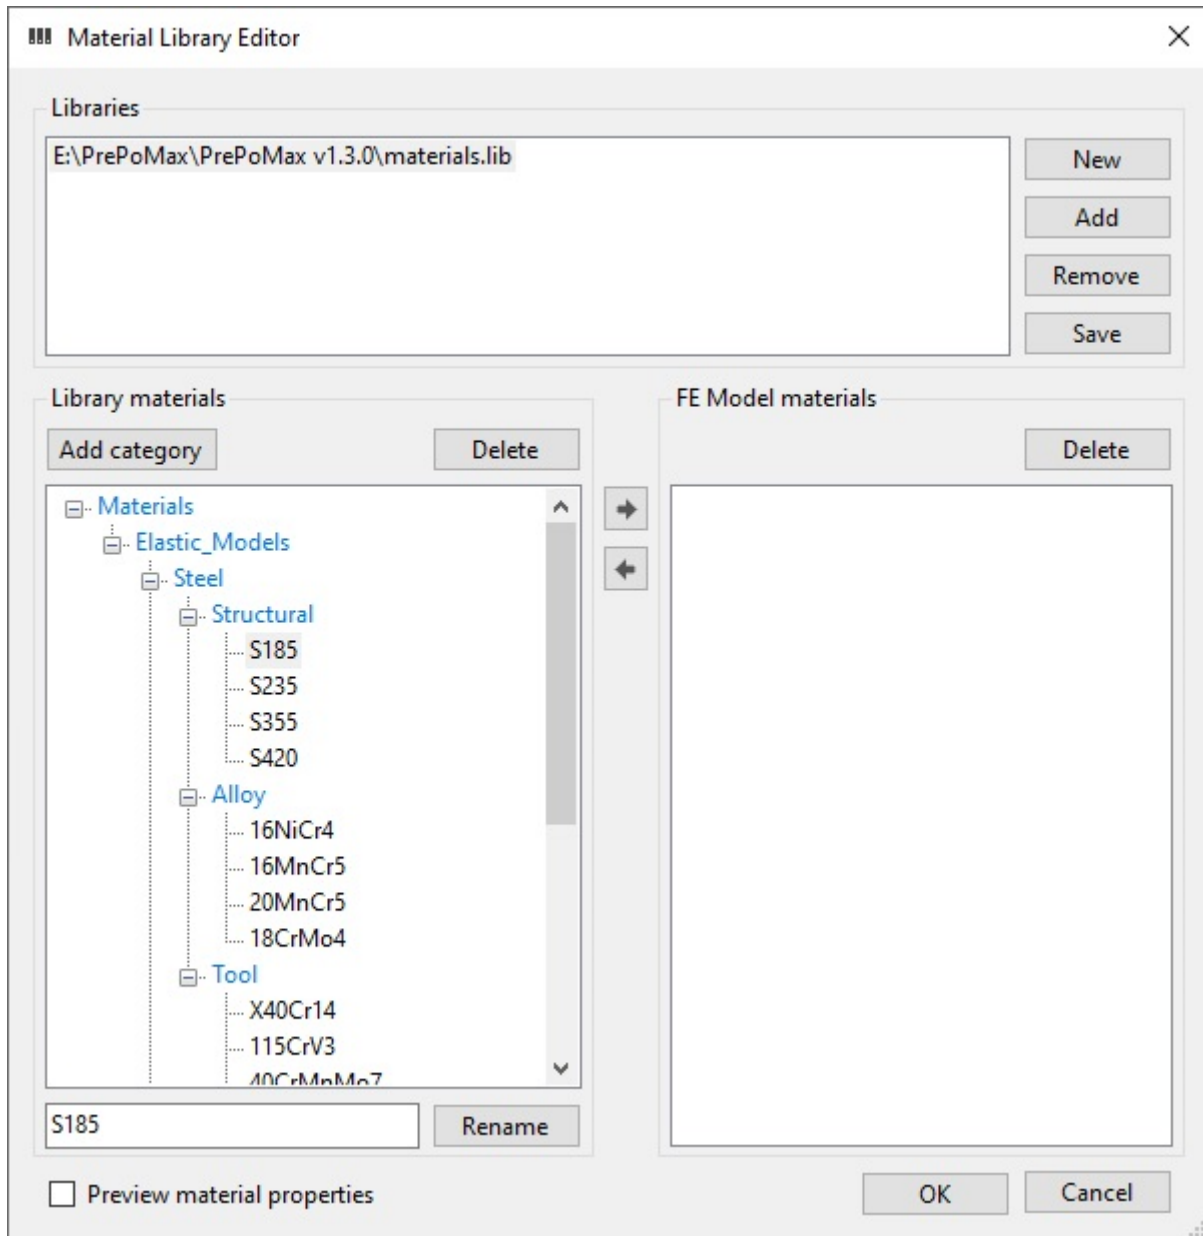

Figure 14: Material library
Material Library editor (Figure 14) allows access to materials library that is stored in the materials.lib file in the base PrePoMax directory. The library file is a text-based file that can be edited using any .txt editor, like Notepad++. It is assumed that all material data is stored using the mm, ton, s, °C unit system. But the library file is not meant to be edited this way since it is created directly from the material objects using JSON serialization and thus not easily readable. The library is meant to be edited using the PrePoMax built-in material editor.
To add a user material to the material library the material must be created first using the Material editor. Then the material library editor (Figure 14) can be used to add the user material to the library. In the material library editor, a desired category must be selected or created first and then the left arrow button can be used to copy the user material to the library. Once a material is added to the library the changes must be saved for future use.
If only a selected material is to be exchanged with the second user, a PrePoMax model `.pmx` file must be used. The first user creates a simple (but not empty) model containing the selected user material. This file must then be sent to the second user who opens the model file and adds the user material from the file to his materials library using the Material library editor (Figure 14). At the bottom of the Material Library Editor there is a checkbox to enable preview of properties of a selected material.
**Material libraries:** PrePoMax now supports editing of multiple material libraries using the built-in material library editor (Figure 14). The added Libraries group-box contains the list of opened library files and the following buttons for their manipulation: